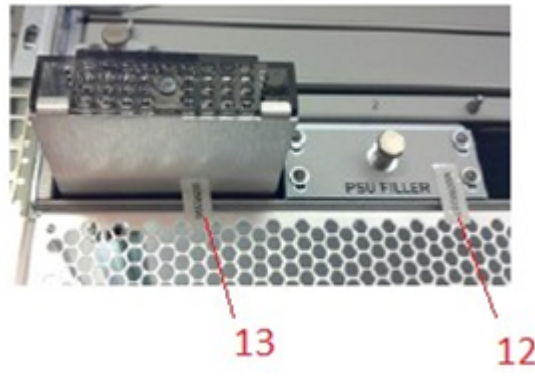
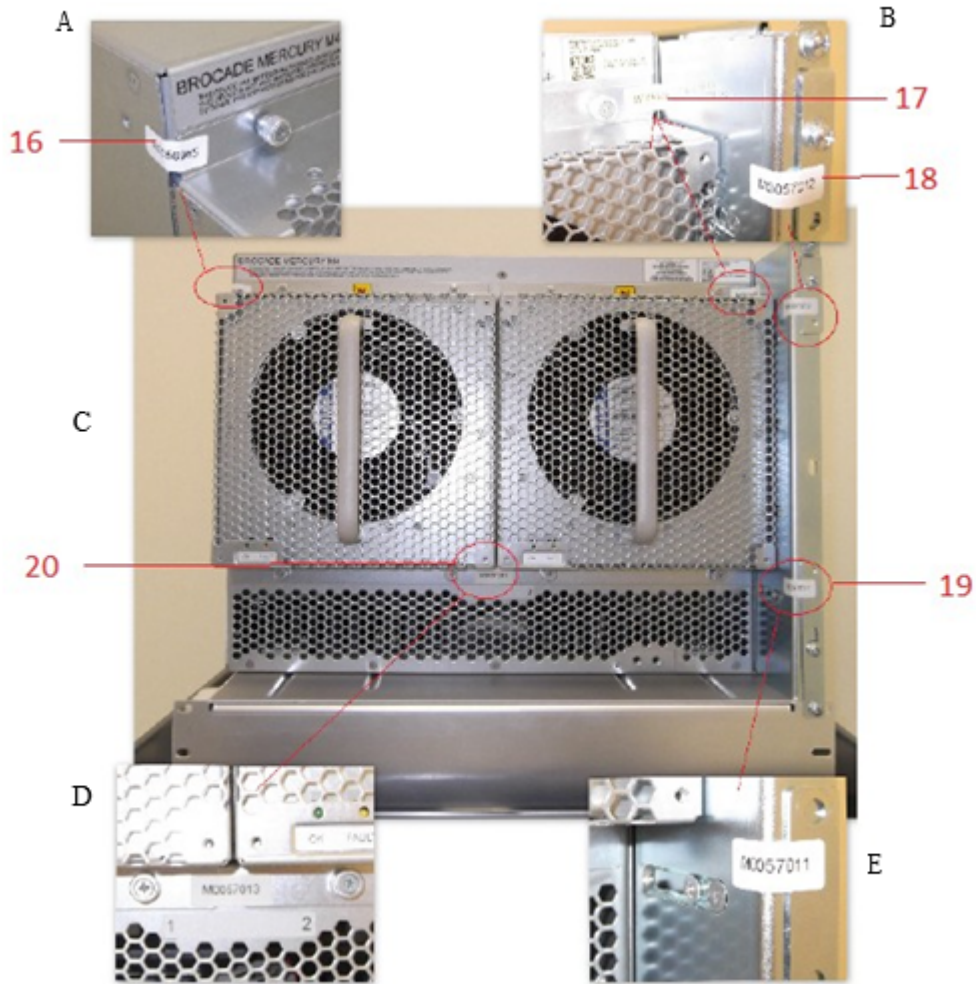
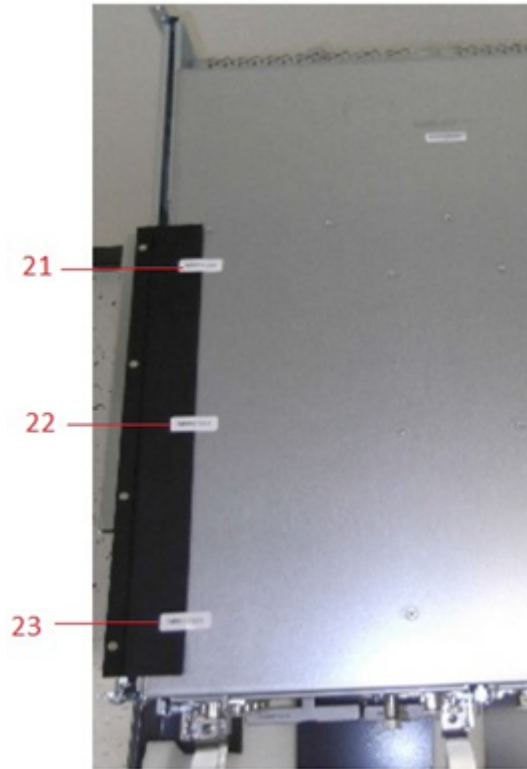

Figure 33 Brocade VDX 8770-4 DC PSU Seal Locations
Figure 34 Brocade VDX 8770-4 Non-Port Side Seal Location
Figure 35 Brocade VDX 8770-4 Air Duct Seal Locations
Twenty-three (23) tamper evident seals are required to complete the physical security requirements illustrated in Figure 32, Figure 33, Figure 34 and Figure 35.
Fifteen (15) tamper evident seals are required to complete the physical security requirements illustrated in Figure 32 and Figure 33. Unused slots must be filled with the module or filler panel appropriate for that slot to maintain adequate cooling.
- b. For a VDX 8770-4 with DC Power Supply Units (PSU) apply one (1) seal to each DC PSU or PSU filler panel installed in PSU slots P1 through P4. For this example, a DC PSUs are installed in slot P1. PSU filler panels are installed in slot P2. Four (4) seals are required to complete this step. See Figure 33--seals 12 and 13, Figure 32C and 32F--seals 10 and 11 for how to position the labels.
Five (5) tamper evident seals are required to complete the physical security requirements illustrated in Figure 34. All fan slots must be filled with a FAN FRU or FAN FRU filler panel to maintain adequate cooling.
Three (3) tamper evident seals are required to complete the physical security requirements illustrated in Figure 35. Relative to the port side of the VDX 8770-4 chassis the air duct is secured to the left side of the chassis.
1. Apply three (3) seals to the rubber flap that touches the top of the VDX 8770-4. Position each seal such that approximately half of each seal adheres to the rubber flap and half of each seal adheres to the top of the chassis. Three (3) seals are required to complete this step. See Figure 35 for details on how to position each seal.